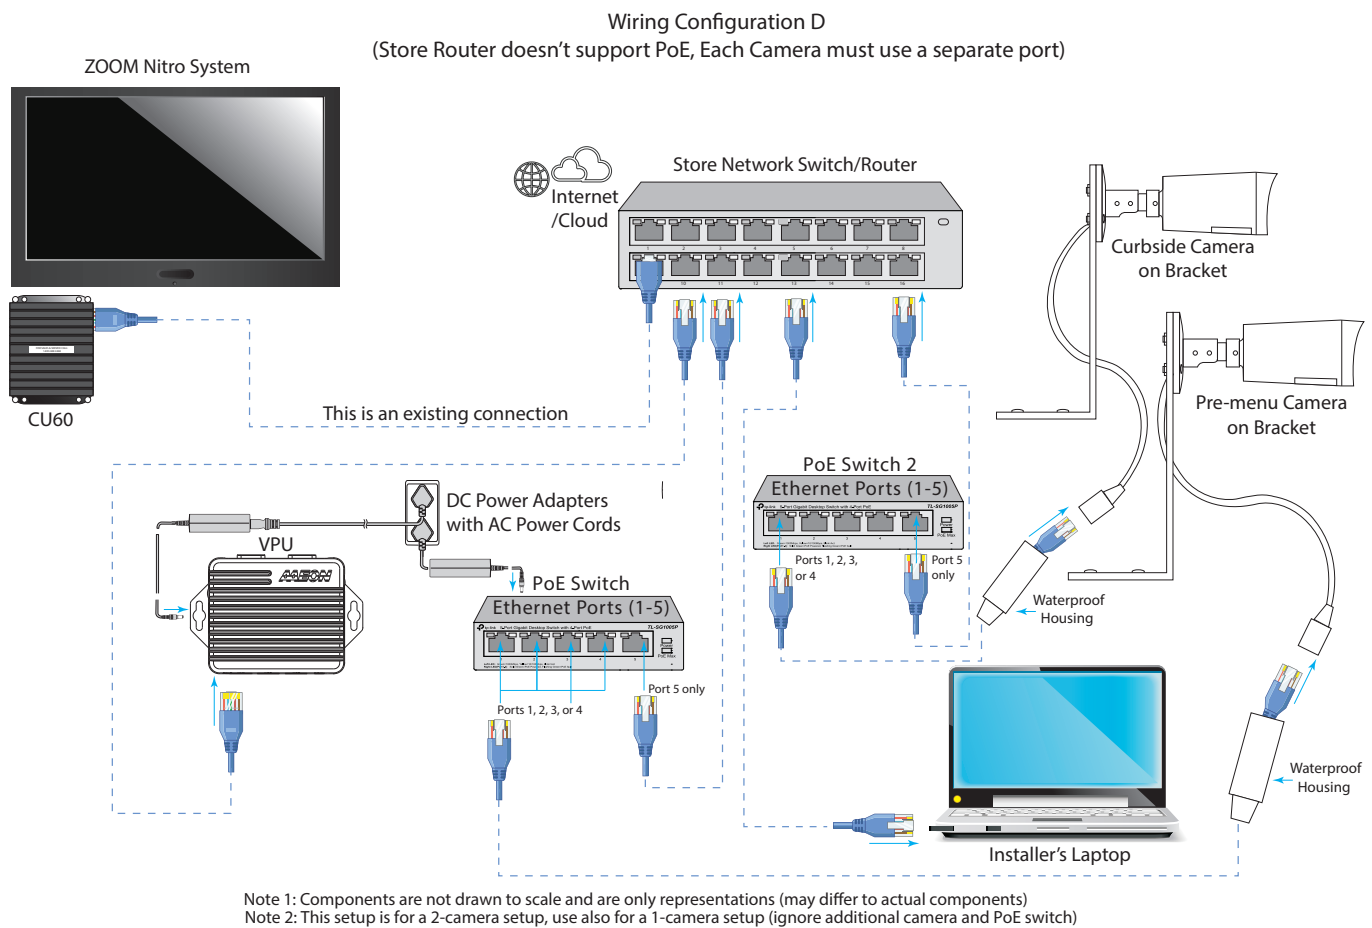

Fig. 1.1
- Use Fig. 1.1 as a visual reference for wiring connections during the installation process. Fig. 1.1 is Wiring configuration Type D which is the most commonly used configuration for two cameras. However, wiring configurations may differ from store to store, so please consult Wiring Configurations Type A, B, and C if Type D does not work. See "Appendix A and B- Wiring Configurations for one camera and two camera setups on page 37. One of these examples should suffice.
Wiring Configuration type D (Fig. 1.1 on page 2) is used for this installation procedure. However, the installation process is the same for all wiring configurations with the exception of the Ethernet connections. Before beginning this section, please read the “Safety Notice” on page iii.